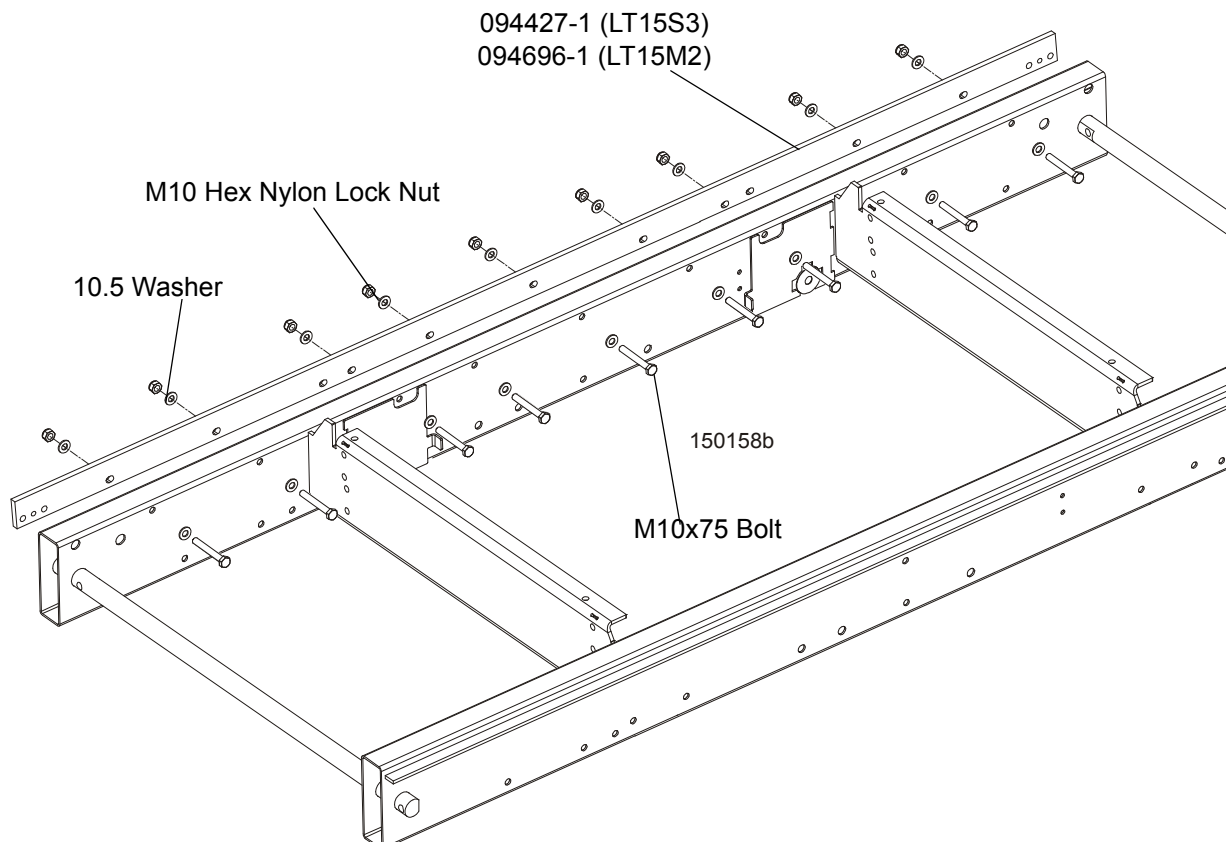

FIG. 2-3
- Mount preliminarily the track rail as shown in Figure 2-3. Do not tighten the nuts.
See Figure 2-3.